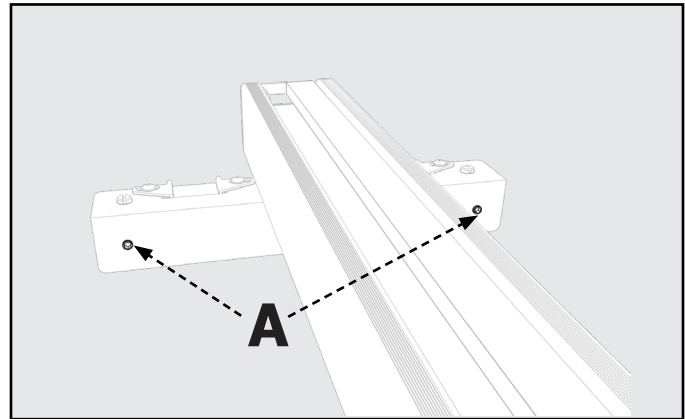

FIGURE 13
2. Slightly tighten or loosen one of the two Set Screws (A) shown in **Figure 13**, using a 3mm Hex Wrench (not supplied).
2. Locate the two Adjusting Screws (A), shown in **Figure 13**.